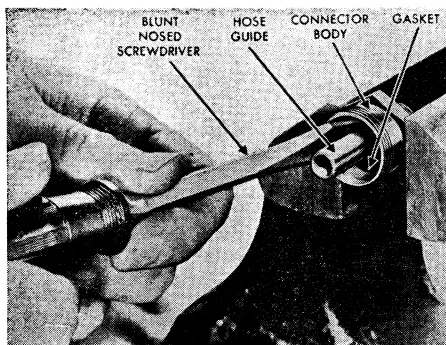

Fig. 36 Installing gasket in bottom of recess in connector body
6. Push gasket into bottom of recess in connector body, Fig. 36.